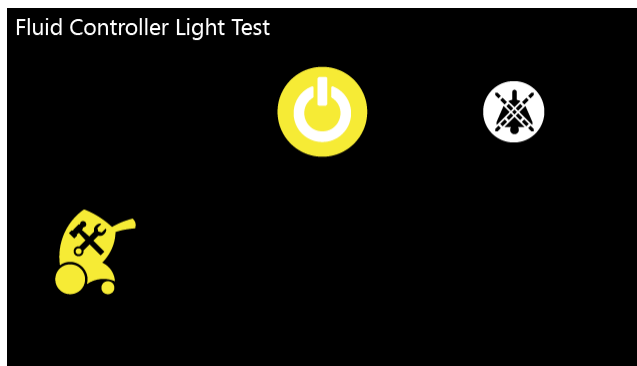

Figure 54 – Fluid indicator test
- c. Verify the fluid controller light test illuminates, mirroring the display. (See Figure 54).